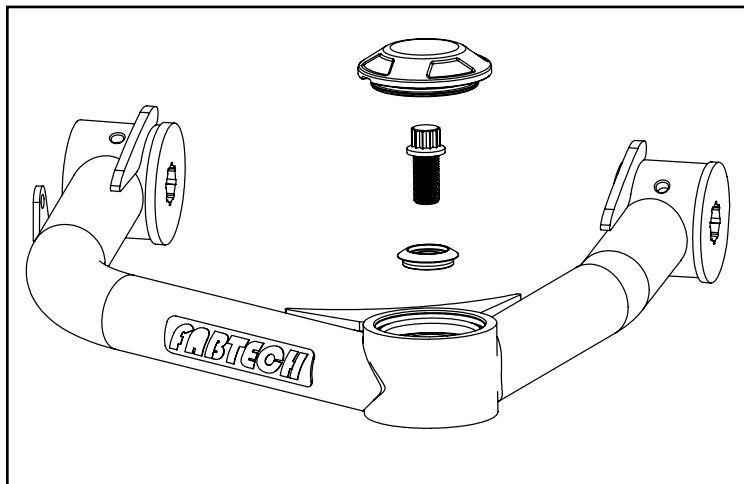

FIGURE 16 - STEP 14
14. Attach the new upper control arm to the knuckle by inserting the FT90152 (Upper misalignment) into the uniball bearing then the 1/2-20 - 12 point bolt. Torque to 120 ft-lbs. Install FT90154 (Bearing cap). **SEE FIGURE 16**